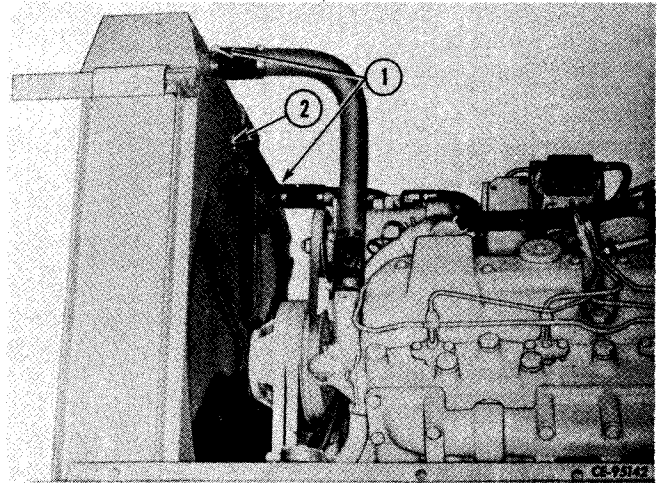

Figure 2-26
Position upper radiator hoses on radiator (2, Fig. 2-26). Install and tighten hose clamps (1).